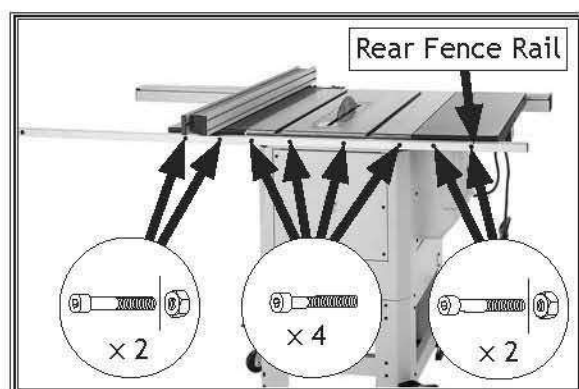

Figure 26. Mounting rear fence rail.
15. Install rear fence rail on rear of table using (8) M8-1.25 x 25 cap screws, as shown in **Figure 26**. Secure outer four cap screws with M8-1.25 hex nuts.